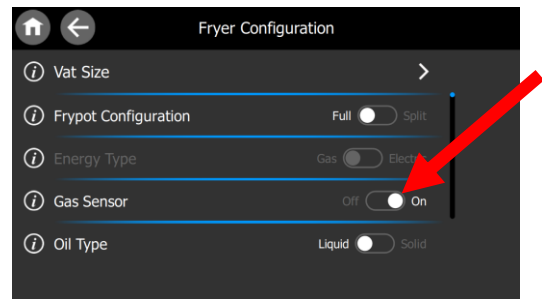

Figure 7
14. Ensure **Gas Sensor** is set to **On** (see Figure 7) and press the **CHECK** button .